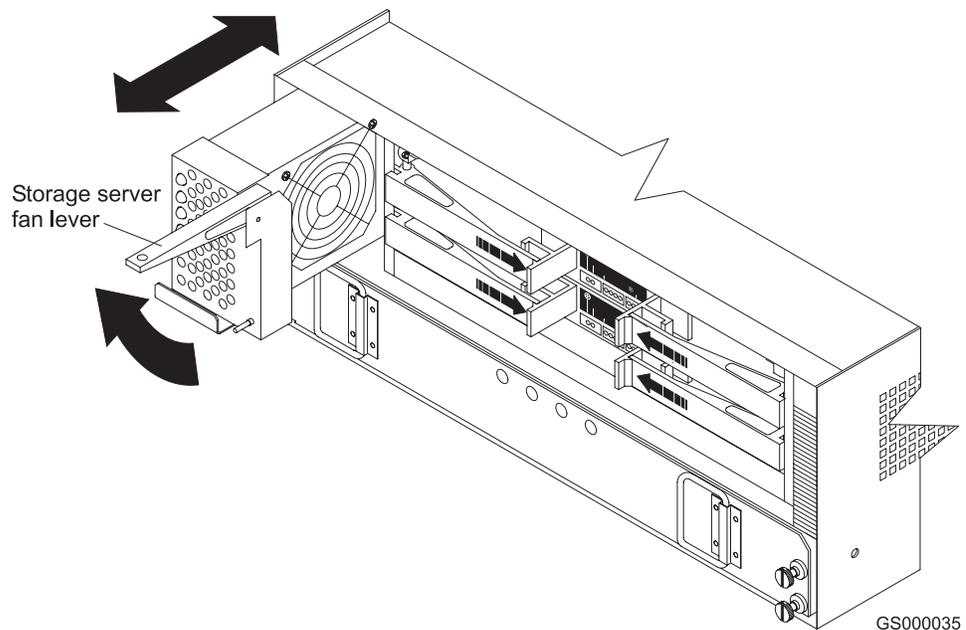
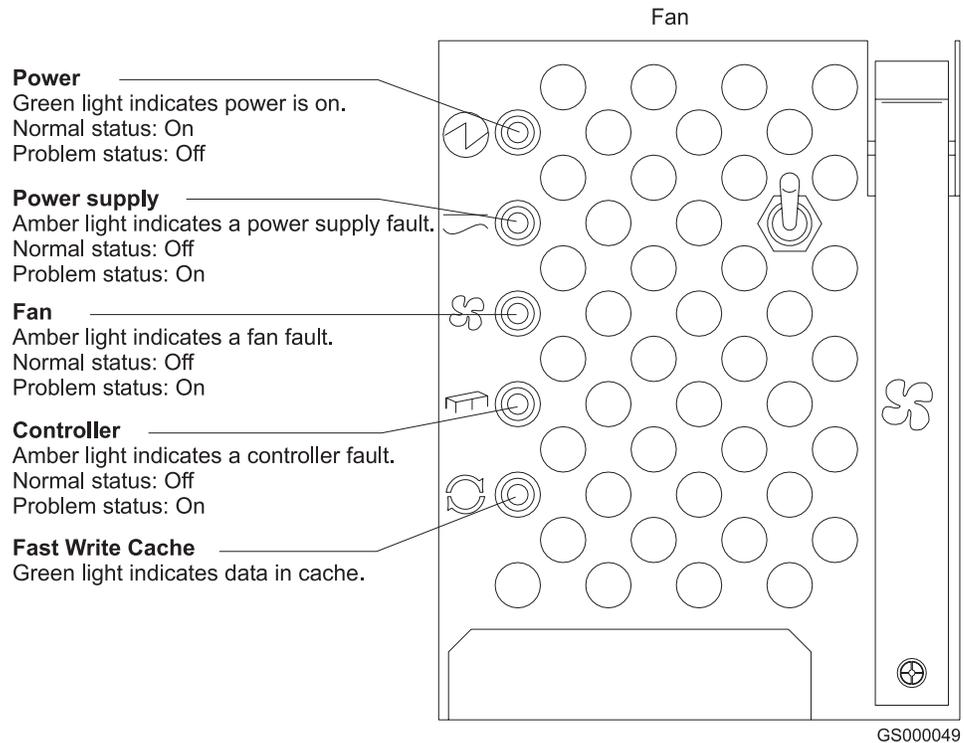

Figure 40. Removing and installing the storage server fan
Figure 41. Storage server indicator lights
The storage server fan is a single, removable unit that contains two cooling fans and temperature monitoring circuitry. The storage server fan plugs directly into a slot on the front of the DS4500 Storage Server, to the left of the controllers (see Figure 40 on page 52). Five indicator lights provide overall system status information (see Figure 41 on page 53). The dual fans in the storage server fan unit provide a redundant cooling system to both controller CRUs. If one fan fails, the other continues to operate, providing sufficient air circulation to prevent the controllers from overheating until you can replace the entire storage server fan.
2. Remove the failed storage server fan, as shown in Figure 40.
- Using Figure 41 as a guide, check the storage server indicator lights on the fan.